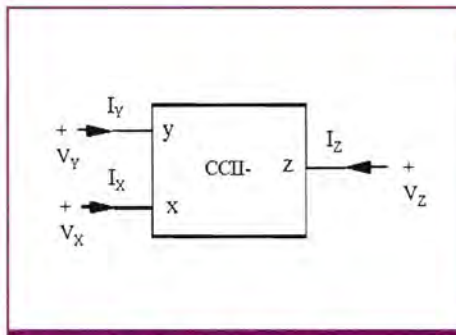

Figure 1: Circuit symbol of CCII-
In one implementation of the floating serial RL circuit (see Singh, V.'s "A new Active RC Circuit realization of Floating Inductance", 1979, *Proc. of the IEEE*, 67, (12), pp. 1659-1660), negative type the second-generation current conveyor (CCII-) is used. The circuit symbol of (CCII-) is shown in **Figure 1**. Considering the non-idealities arising from the physical implementation of CCII, its terminal relationship can be given as: